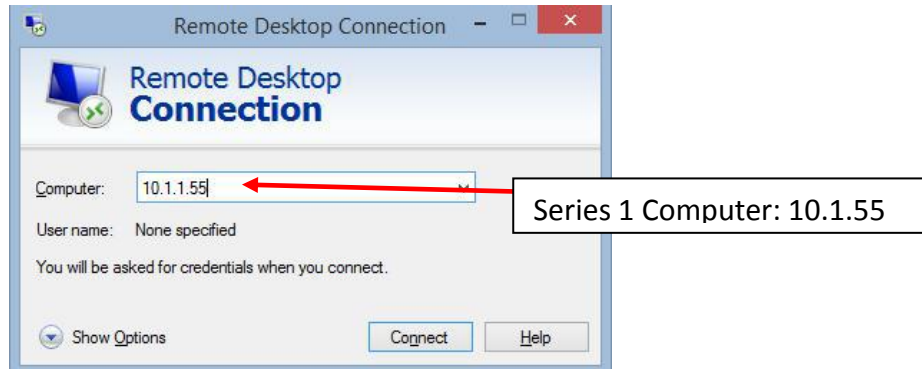
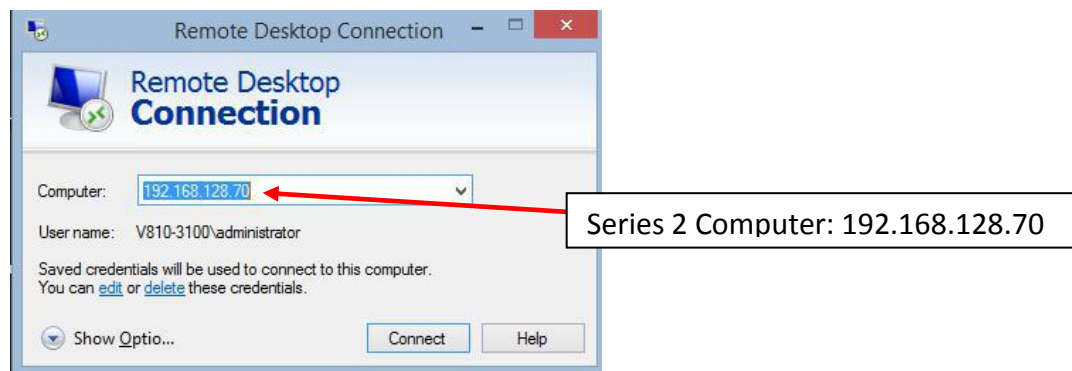

Figure 8 Series 1
Figure 9 Series 2
20. Login to the Atom PC and enter the computer name as shown below in Figure 8 (S1 Series) and Figure 9. (S2 Series)